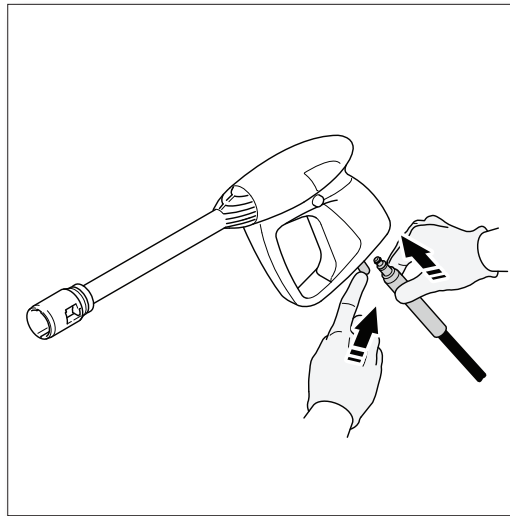

Fig.6
- Attach 20' High pressure hose to Spray gun by pulling back on lock, and inserting hose (**Fig. 6**).
- To release the hose from the spray gun, press the button on the underside of the gun toward the trigger guard. The hose will slide out from the connection (**Fig. 6**).